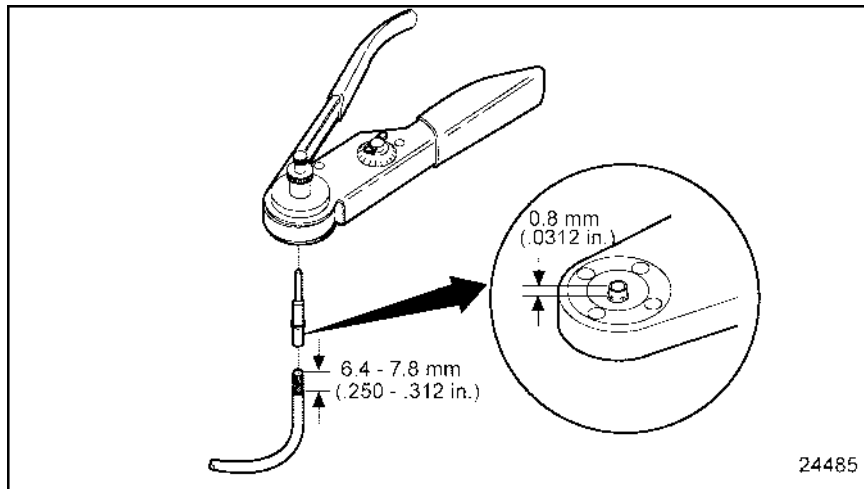

Figure 3-46 Setting Wire Gage Selector and Positioning the Contact
4. Position the contact so that the crimp barrel is 1/32 of an inch above the four indenters. See Figure 3-46. Crimp the cable.